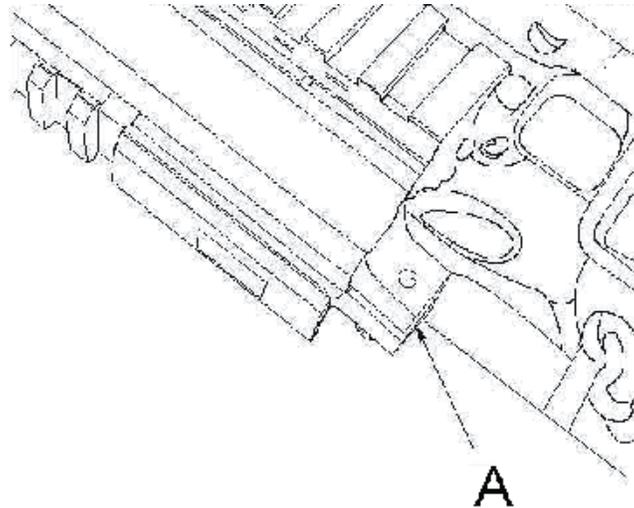

Figure 3
(4) (Figure 3) Install the left side adapter rail so the adapter fits on the bottom of the receiver and ends of the two adapter rails are aligning with each other. The two studs will also fit into the holes on the side of the receiver. Illustration above shows that the rails should be flush against the bottom of the receiver (A).